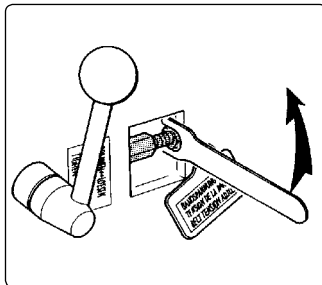

fig 9
- 6.2.4. Loosen locking nut (fig 9).